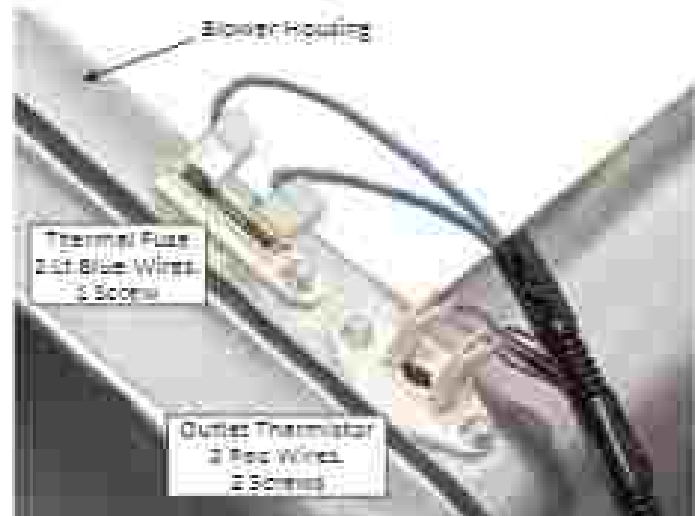

Figure 2 - Thermal Fuse & Outlet Thermistor.
5. Disconnect the two wire connectors from the thermal fuse or outlet thermistor terminals (see Figure 2).
6. Remove the screw(s) from the thermal fuse or outlet thermistor and remove the component from the blower housing (see Figure 2).